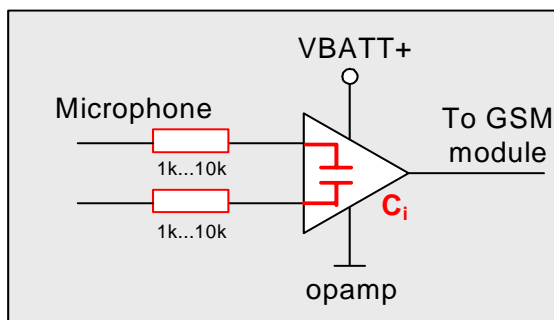

Figure 27: Recommended serial resistors for semiconductor inputs
- Serial resistors >50Ohms including the internal capacitance of the semiconductor (e.g. opamp or analog switches etc.) act as low pass for GSM frequencies (see Figure 27).